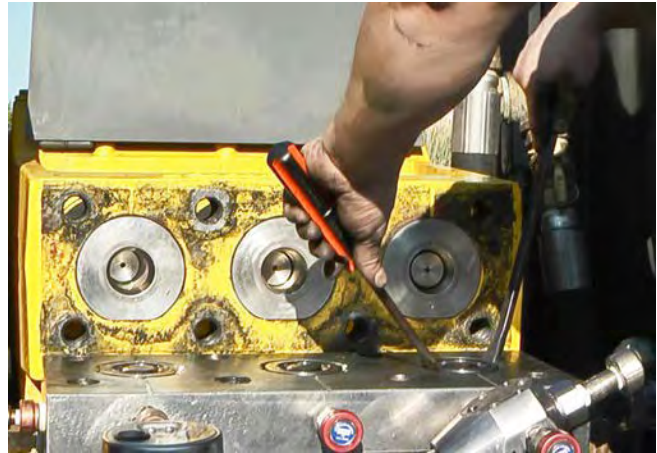

Figure 75: Pry Out Uni-Valves.
6. Use two small pry bars (Jetstream p/n 70179) to pry the valve out of the manifold as shown (Figure 75).